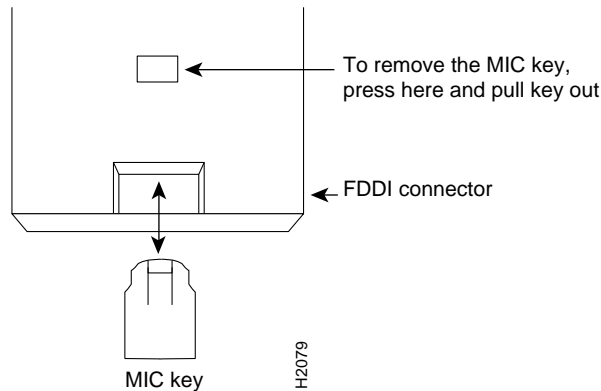

Figure 3-1 MIC Connector Key on Dual Attachment Configuration
- Step 1** Use a pointed object, such as a pencil, to press on the tab as shown in Figure 3-1.
- Step 2** Pull out the S (slave) key designating this as a single attachment adapter. (See Figure 3-1.)